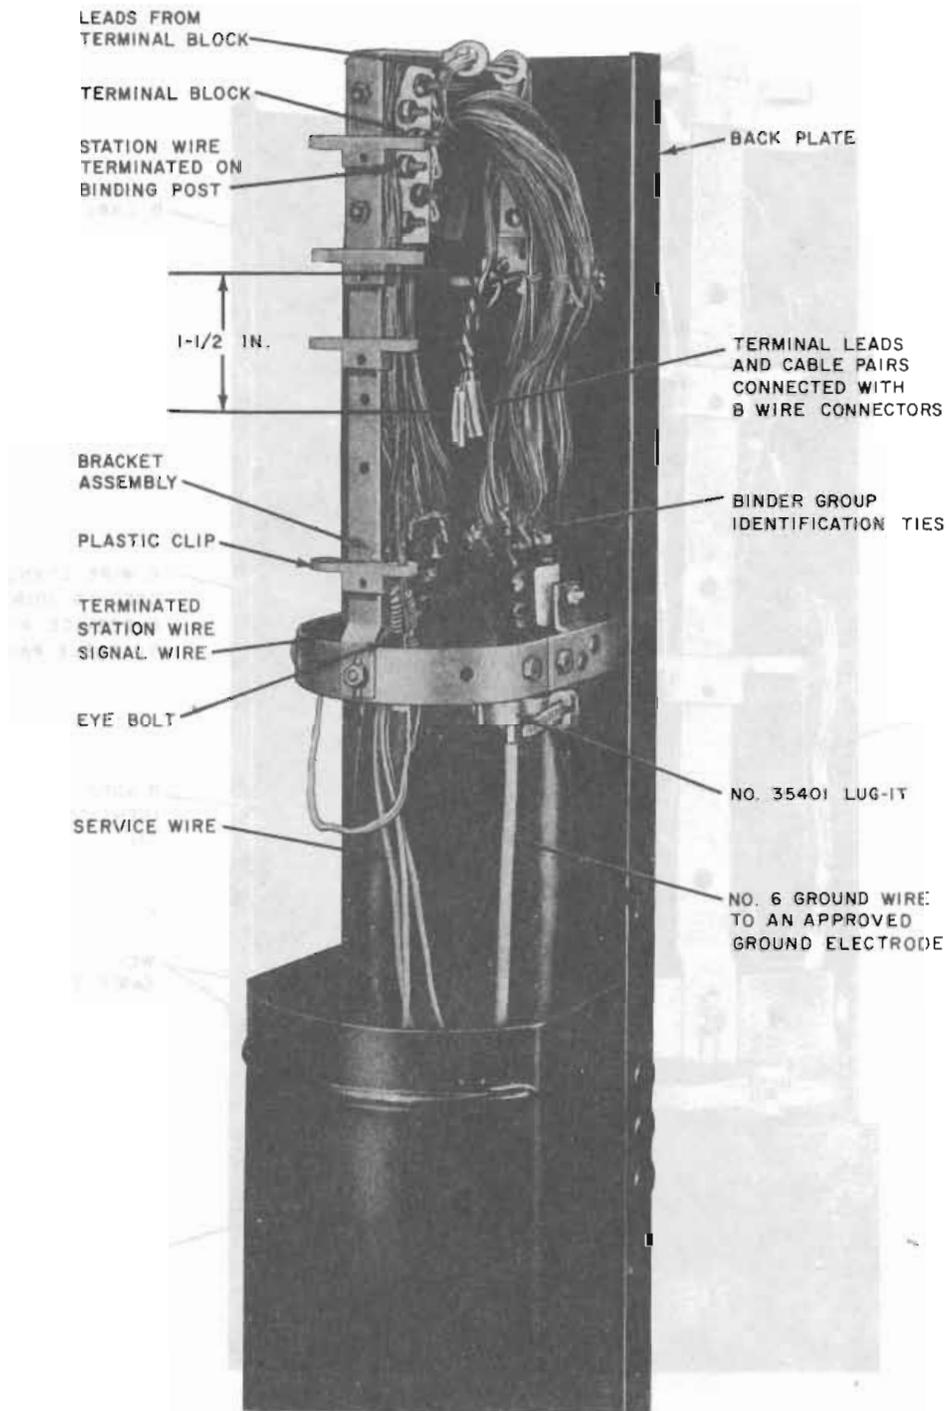

Fig. 17—Service Wire Installed—E Cable Closure (Protected)
**9.04** At each cable butt, place binder group identification ties (see 7.01) around the binder group containing the cable pair to be connected. Remove the unit binder. Remove the assigned cable pair from the binder group and cut the cable pair (see 7.02). Place the cable pair up through the plastic clip on the backplate and bend down. Cut the cable pair and service wire conductors even, 1-1/2 inches below the plastic clip. Connect the service wire conductors to the cable pair conductors with 700-type connectors or B wire connectors (Fig. 17 see 7.03).
(b) Run the service wire up through the plastic clips on the bracket assembly and terminate the conductors on the assigned binding posts of the terminal block (Fig. 17).
(c) Run the leads from the assigned binding posts up through the plastic clips on the bracket assembly and down through the plastic clips on the backplate (Fig. 17).
(e) Cut the cable pair (see 7.02). Place the cable pair up through the plastic clip on the backplate and bend down. Cut the cable pair and terminal block conductors even, 1-1/2 inches below the plastic clip. Connect the terminal block conductors to the cable pair conductors with 700-type connectors or B wire connectors (Fig. 17, see 7.03), then attach service wire conductor to appropriate terminals on the terminal block.